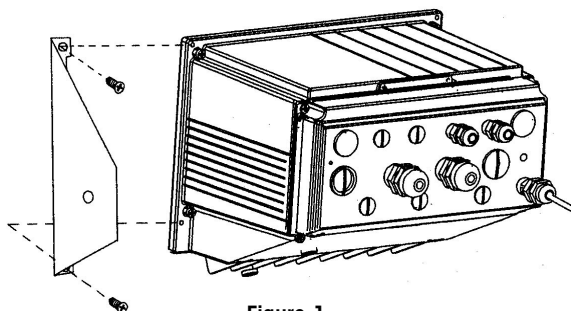

Figure 1
3. Using the four screws, R0408600A supplied with the kit, attach the swivel plates, one to each side, to the terminal's outer case as shown in Figure 1.